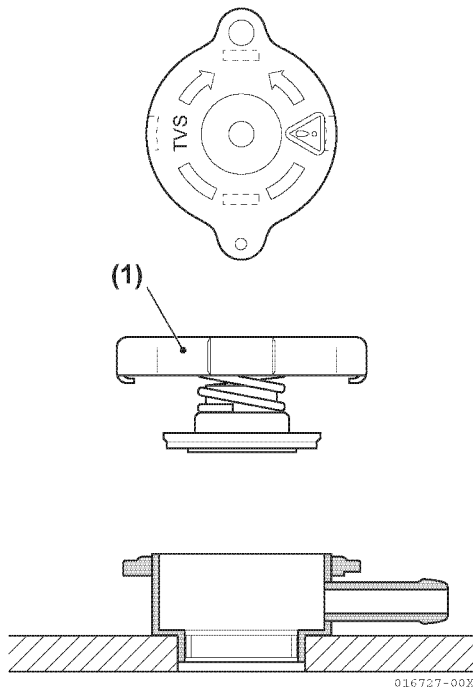

Figure 7-17
2. Inspect the cap gasket and flange on the filler neck for damage (Figure 7-17, (1)).